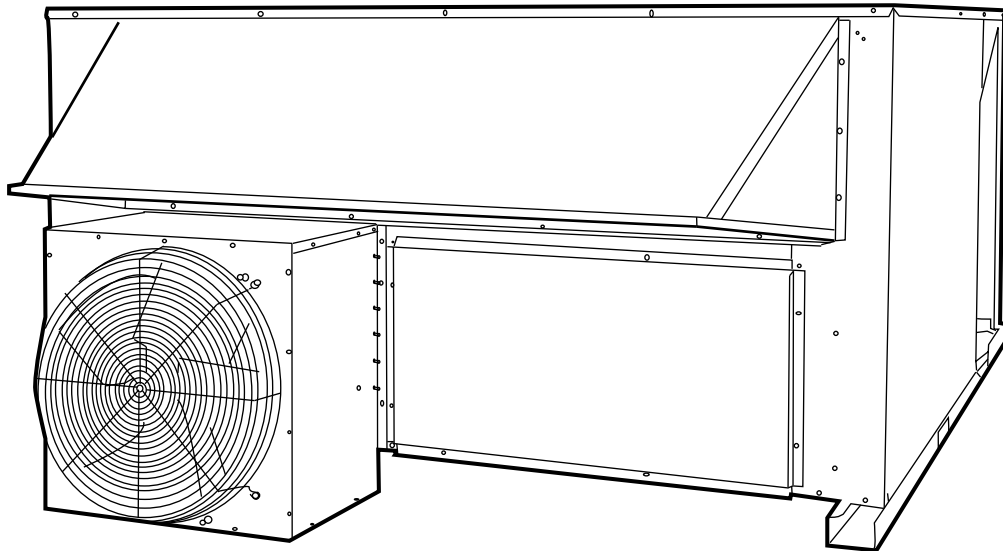

Fig. 5 — Base Unit with Relief Damper Assembly Installed
3. Using no. 10AB x ½-in. screws, fasten damper assembly to unit (Fig. 5).